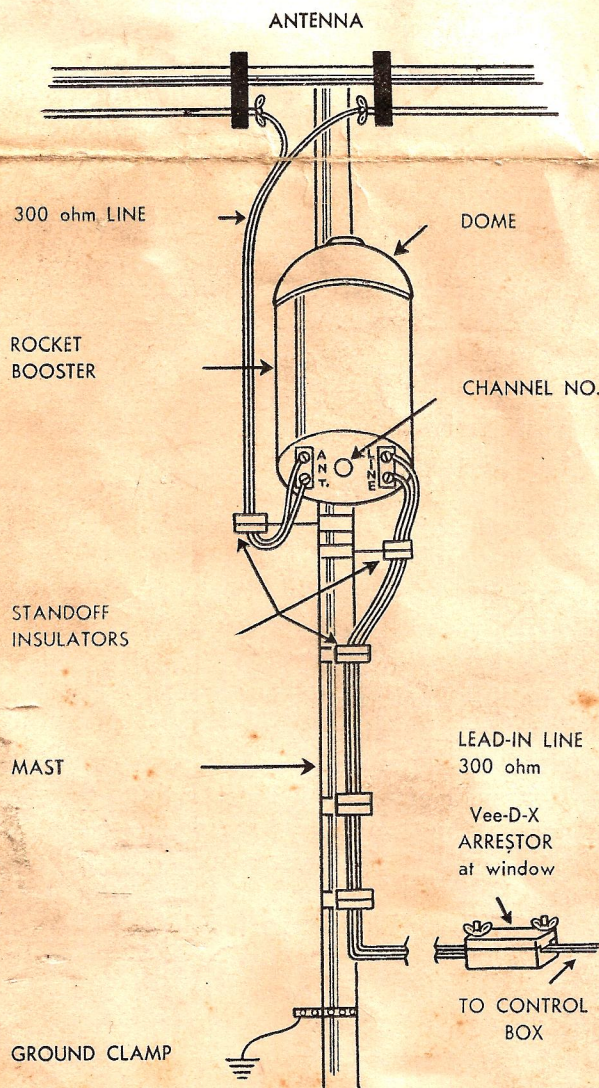

Fig. 1
- A. Booster proper (See Figure 1).
- (d) A stand-off insulator should also be placed three inches below the booster proper to relieve the down pull on the terminals. See Figure 1. Use additional insulators as necessary for proper lead-in line support. **Allowance for enough length of transmission line should be made for the permanent mounting at the top of the mast.**